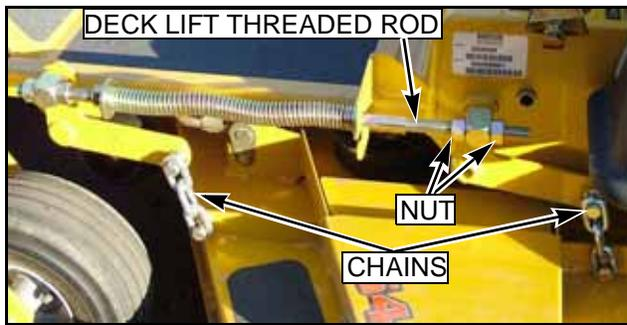
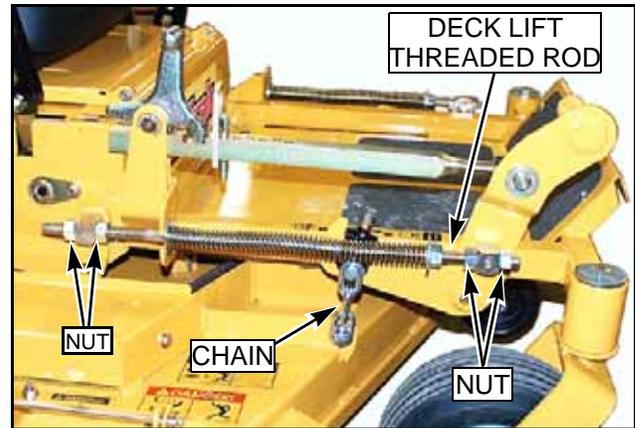
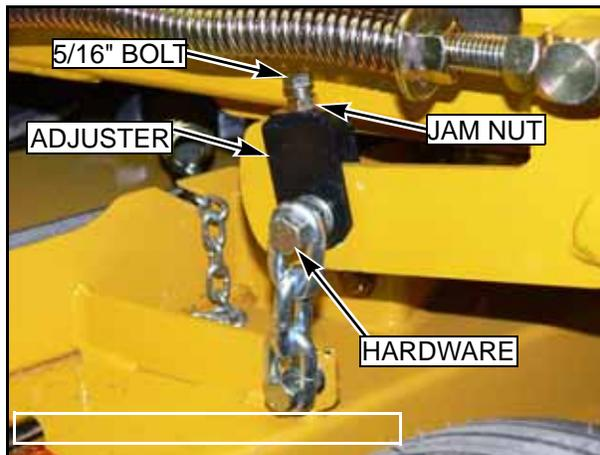

FIG. 73
FIG. 74
FIG. 75
6. Loosen all nuts on the deck lift threaded rods, and the hardware on the adjuster (on the right front), until all the deck lift chains are loose, and the deck is sitting tightly on all four blocks (FIG. 73, FIG. 74 & FIG. 75).
14. Loosen the 5/16" jam nut on the adjuster lift chain (FIG. 75), and back the adjuster bolt out to allow the adjuster to move up and down freely.
17. Tighten the adjuster bolt jam nut to prevent the adjuster bolt from moving (FIG. 75).
20. Make sure that there is still slack in the chain. If not, loosen the two nuts on the block holding the threaded rod until there is slack in the deck lift chain (FIG. 75).
24. Make sure that there is still slack in the chain. If not, loosen the two nuts on the block holding the threaded rod until there is slack in the deck lift chain (FIG. 73).